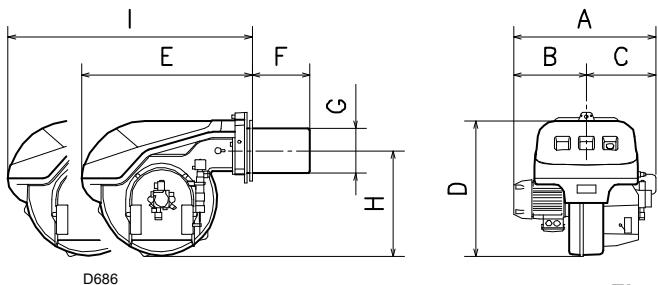

Fig. 2
4.3.2 Max. dimensions (Fig. 2) - approximate measurements
The maximum dimensions of the burner are given in (Fig. 2). Bear in mind that inspection of the combustion head requires the burner to be opened and the rear part drawn back on the guides. The dimensions of the open burner are indicated by position I.